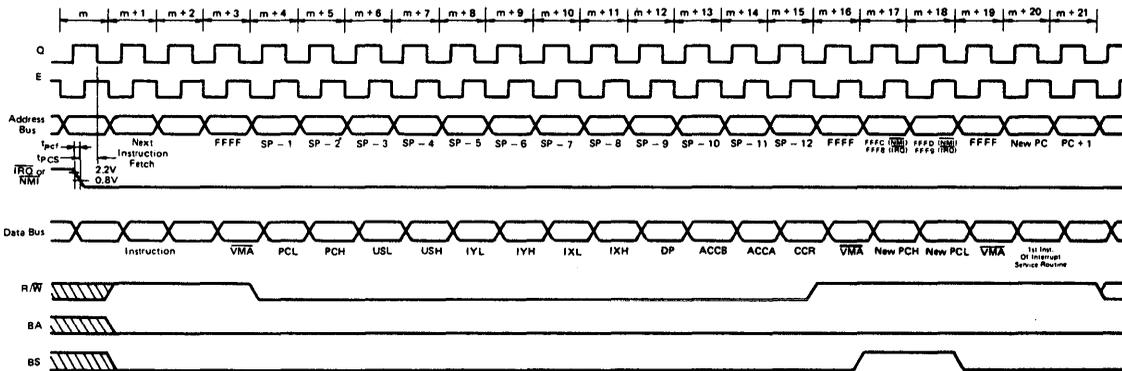

Figure 9 $\overline{\text{IRQ}}$ and $\overline{\text{NMI}}$ Interrupt Timing
hardware stack. After reset, an $\overline{\text{NMI}}$ will not be recognized until the first program load of the Hardware Stack Pointer (S). The pulse width of $\overline{\text{NMI}}$ "Low" must be at least one E cycle. If the $\overline{\text{NMI}}$ input does not meet the minimum set up with respect to Q, the interrupt will not be recognized until the next cycle. See Fig. 9.
A "Low" level input on this pin will initiate an interrupt Request sequence provided the mask bit (I) in the CC is clear. Since $\overline{\text{IRQ}}$ stacks the entire machine state it provides a slower response to interrupts than $\overline{\text{FIRQ}}$. $\overline{\text{IRQ}}$ also has a lower priority than $\overline{\text{FIRQ}}$. Again, the interrupt service routine should clear the source of the interrupt before doing an RTI. See Fig. 9.